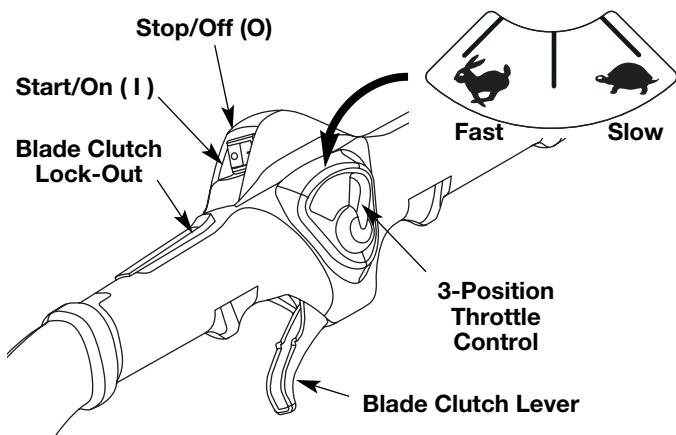
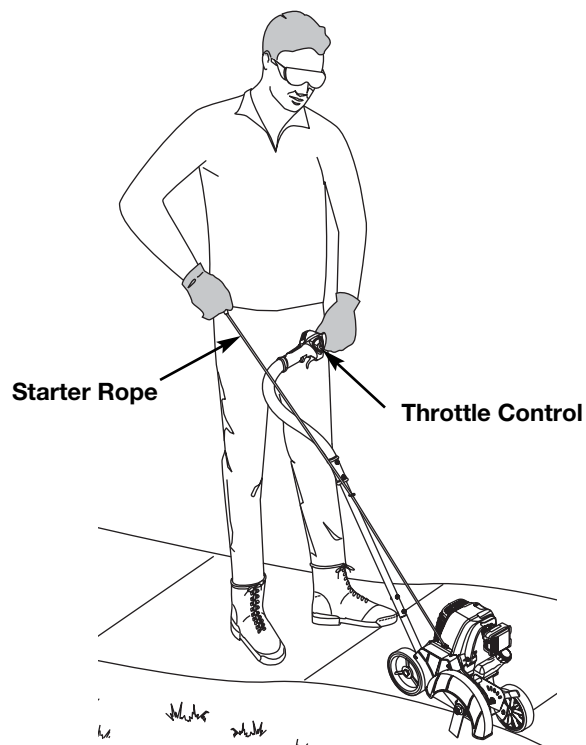

Fig. 8
Fig. 11
**WARNING:** Avoid accidental starting. Make sure you are in the starting position when pulling the starter rope (Fig. 11). To avoid serious injury, the operator and unit must be in a stable position while starting.
**NOTE:** There is no need to turn the unit on. The On/Off Stop Control is in the ON (I) position at all times (Fig. 8).
5. Stand in the starting position (Fig. 11). Place the Throttle Control Lever in the Fast position (Fig. 8) and pull the starter rope briskly 5 times.
2. Press and hold On/Off Stop Control in the OFF (O) position until engine comes to a complete stop (Fig. 8).